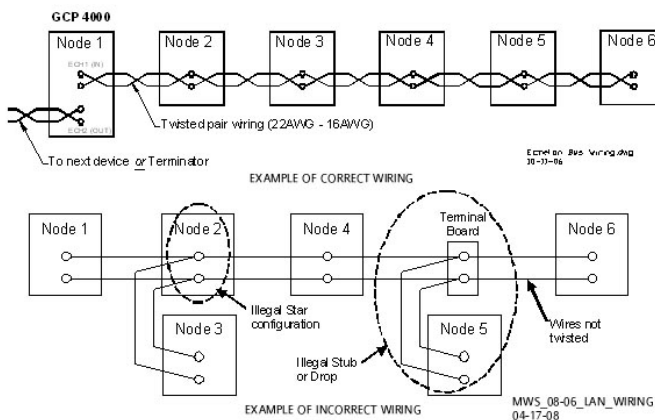

Figure 68: Echelon LAN Wiring Examples
- Each connection (node) must be wired in a daisy-chained bus configuration, no drops allowed (see Figure 68).